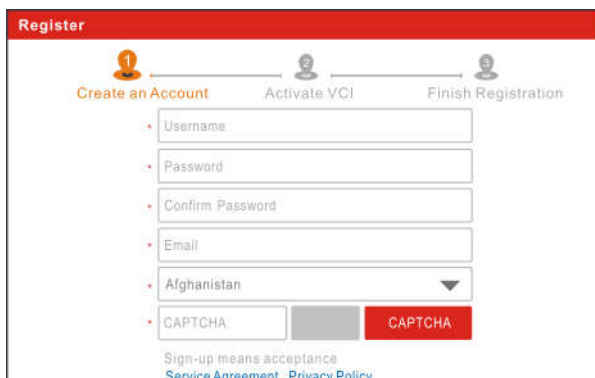

Fig. 4-3
A. If you are a new user, tap “New Registration” to enter registration page. See Fig. 4-3.
In Fig. 4-3, fill in the information in each field (Items with * must be filled). After inputting, tap “Register”, a screen similar to the following will appear: